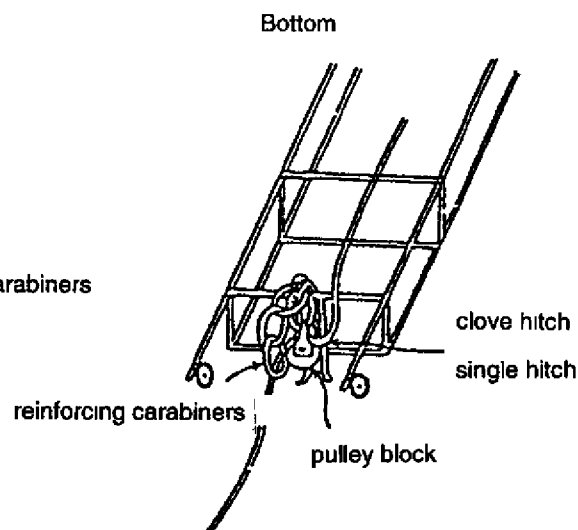

Fig. 7-27
- 3) Next, at the bottom of the ladder use the same procedure—double up a sling rope, tie it to the center of the bottom rung with a clove hitch and single hitch, attach a pulley block to the front of the ladder, and strengthen with carabiners (3 linked together). (Fig. 7-27)